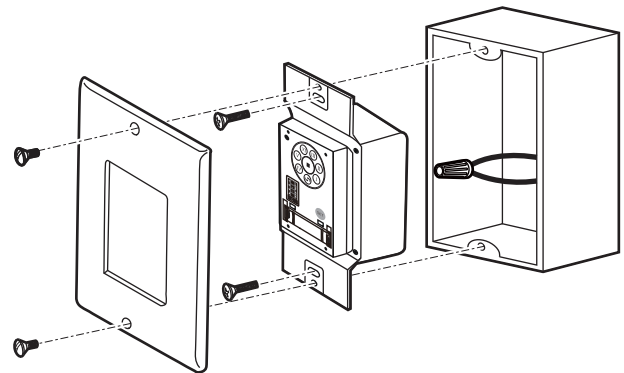

Figure 8
2. Carefully tuck the wire connections inside the outlet box. Secure the wall control with the two wall switch screws provided. (Fig. 8)